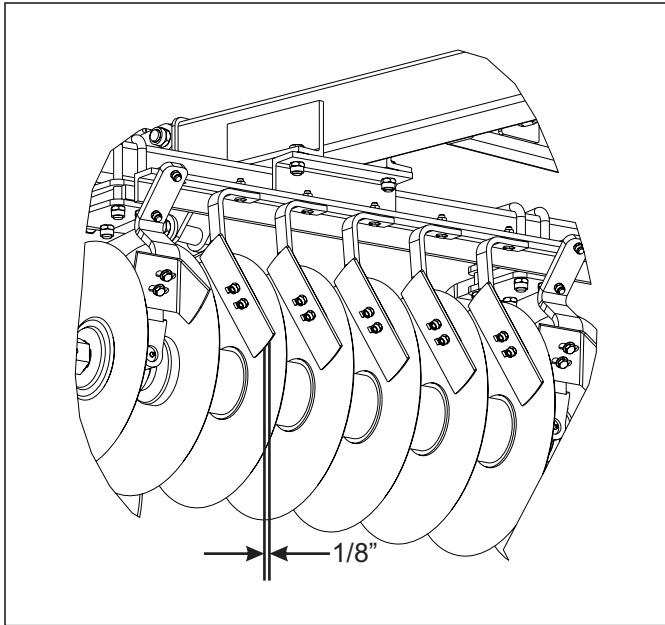

Figure 4-13: Scraper Adjustment
1. Rigid scrapers should be set initially as close to the disc blade as possible without rubbing (approximately 1/8") (**See Figure 4-13.**) A slotted hole at the top of each scraper is provided for individual adjustment. Adjustments may be made for entire gangs, by loosening the u-bolts around the angle-iron scraper bars and sliding the whole bar. Scraper arms are made of spring steel. In wet conditions, the scraper may be set against the disc blade and will function as a spring-loaded scraper.